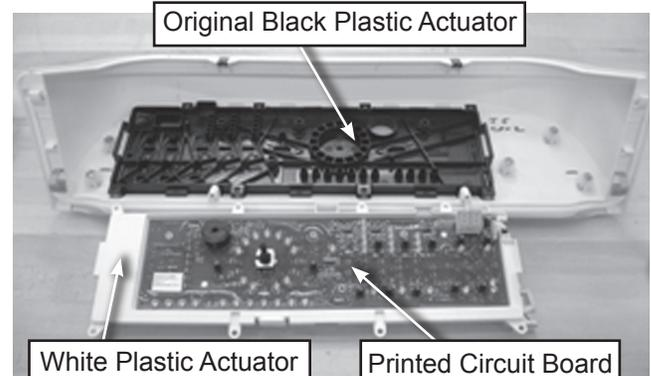

Figure 2
**IMPORTANT:** Leave the original black plastic actuator attached to the console. See figure 2.